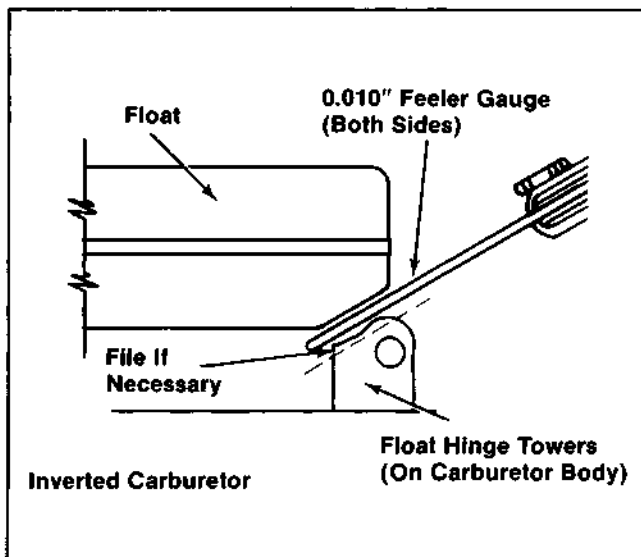

Figure 6-15. Checking Float Clearance.
5. **Check float-to-float hinge tower clearance:** Invert the carburetor so the float tab rests on the fuel inlet needle. Insert a .010" feeler gauge between float and float hinge towers. If the feeler gauge cannot be inserted, or there is interference between the float and towers, file the towers to obtain the proper clearance. Refer to Figure 6-15.